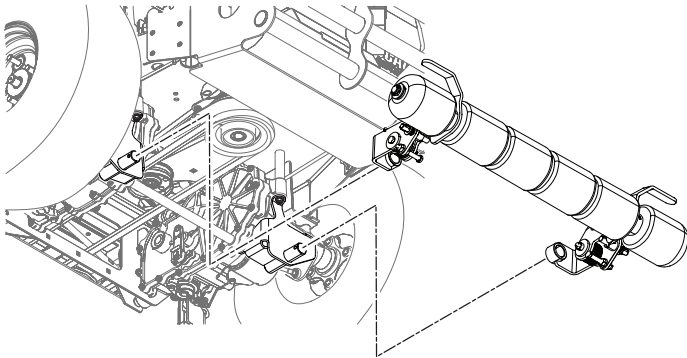

Figure 2-3. Install Roller Assembly
7. Install the Striper Roller Assembly (p/n 923F) onto the mounting brackets. See Figure 2-3.